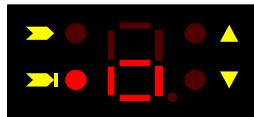

Figure 40
- When the requirements for the activation are met, a signaling is provided onto the LED display in order to inform users that an override is possible and required (see Figure 40).